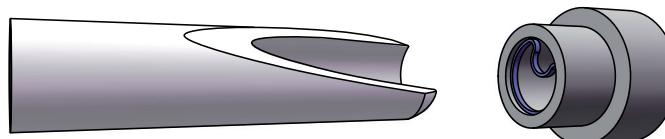
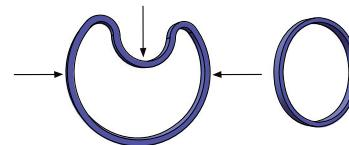

Figure 1
Figure 2
First the O-ring must be installed in the groove. Then the rod seal should be carefully formed into a kidney shape without sharp bends as shown in fig.1. This deformed ring is placed in the groove and reformed rounded with the aid of a pin.
**Fig. 1:** Another type of installation aid. It consists of a metal pin which has a female cone-shaped recess at one of its front-ends. The PTFE ring can be easily placed in the recess deforming it by hand (see fig. 2). Due to the reduced diameter the PTFE ring (still placed on the pin) can now be installed into the groove. After removal of the pin the PTFE ring can be pressed into the groove and reformed.